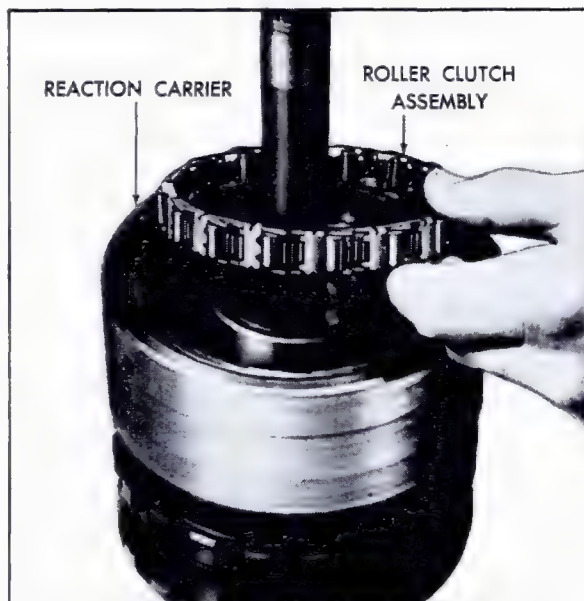

Fig. 7-186 Installing Roller Clutch Assembly in Reaction Carrier
q. Install roller clutch assembly in reaction carrier, Fig. 7-186.